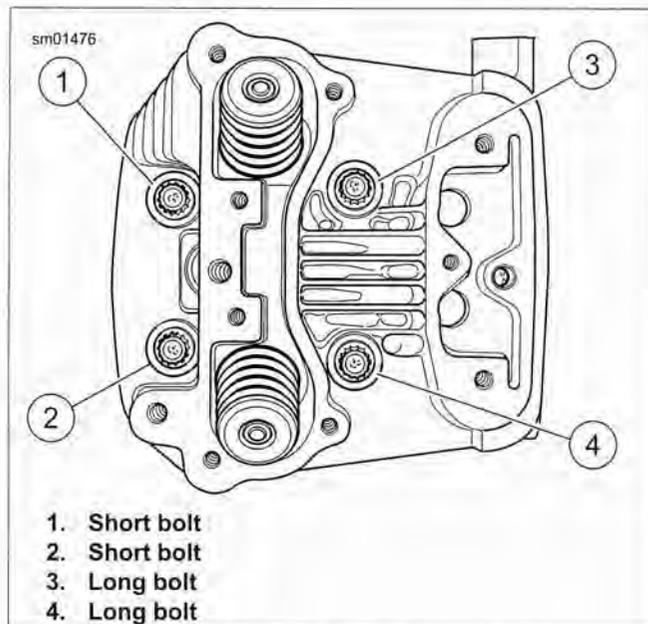
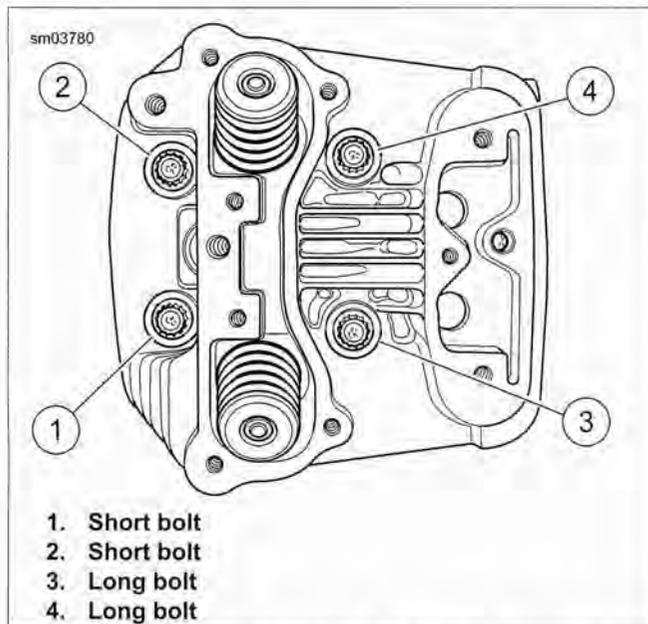

Figure 3-96. Front Cylinder Head Screw Loosening/Tightening Sequence (typical)
Figure 3-97. Rear Cylinder Head Screw Loosening/Tightening Sequence (typical)
9. See Figure 3-96 and Figure 3-97. For each cylinder head, start with bolt numbered one, as shown. In increasing numerical sequence (i.e.: 1, 2, 3, 4), tighten head bolts in the following steps: